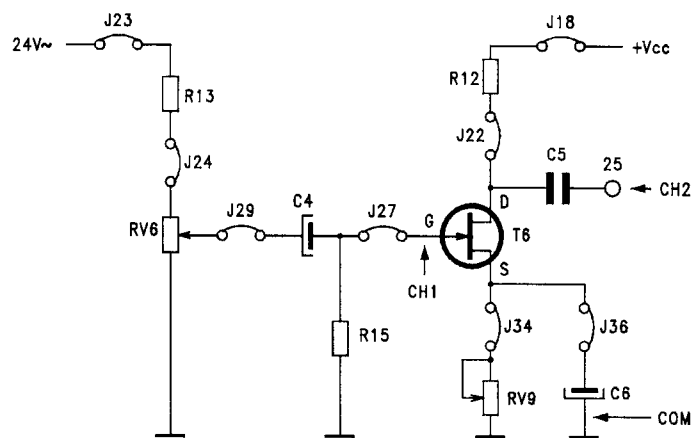

fig.B14.21
- Connect jumpers J23, J24, J29, J27, J34, J36, J22, J18, to produce the circuit of figure B14.21